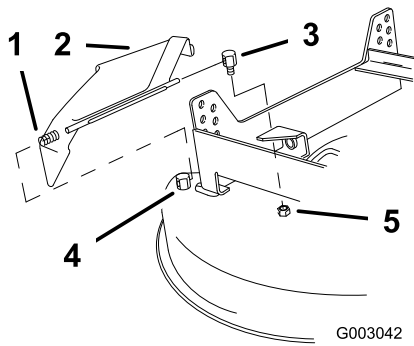

Figure 55
- Remove the locknut holding the rear deflector pivot post to the mower and remove the rear pivot post (Figure 55).
- Remove the deflector assembly from the front (fixed) deflector pivot post and remove the deflector assembly from the mower (Figure 55).
- Install the rear deflector pivot post onto the mower and tighten the locknut (Figure 55).